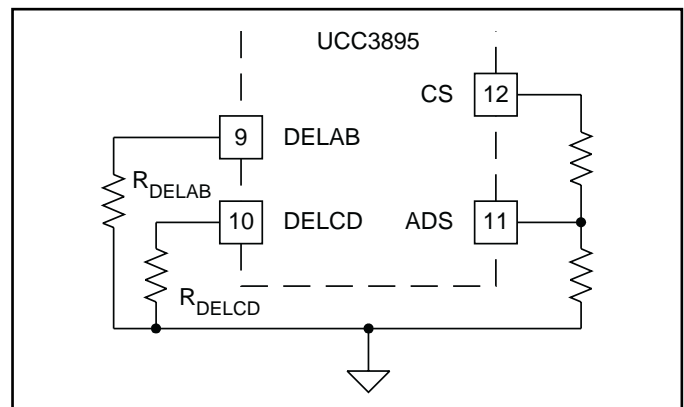

Figure 1. Resistors needed in programming.
**CT:** Oscillator Timing Capacitor. (Refer to Fig. 1, Oscillator Block Diagram) The UCC3895's oscillator charges CT via a programmed current. The waveform on CT is a sawtooth, with a peak voltage of 2.35V. The approximate oscillator period is calculated by the following formula:
**RT:** Oscillator Timing Resistor. (Refer to Fig. 1, Oscillator Block Diagram) The oscillator in the UCC3895 operates by charging an external timing capacitor, CT, with a fixed current programmed by  $R_T$ .  $R_T$  current is calculated as follows:
**SYNC:** Oscillator Synchronization. (Refer to Fig. 1, Oscillator Block Diagram) This pin is bidirectional. When used as an output, SYNC can be used as a clock, which is the same as the chip's internal clock. When used as an input, SYNC will override the chip's internal oscillator and act as its clock signal. This bidirectional feature allows synchronization of multiple power supplies. The SYNC signal will also internally discharge the CT capacitor and any filter capacitors that are present on the RAMP pin. The internal SYNC circuitry is level sensitive, with an input low threshold of 1.9V, and an input high threshold of 2.1V. A resistor as small as 3.9kΩ may be tied between SYNC and GND to reduce the sync pulse width.